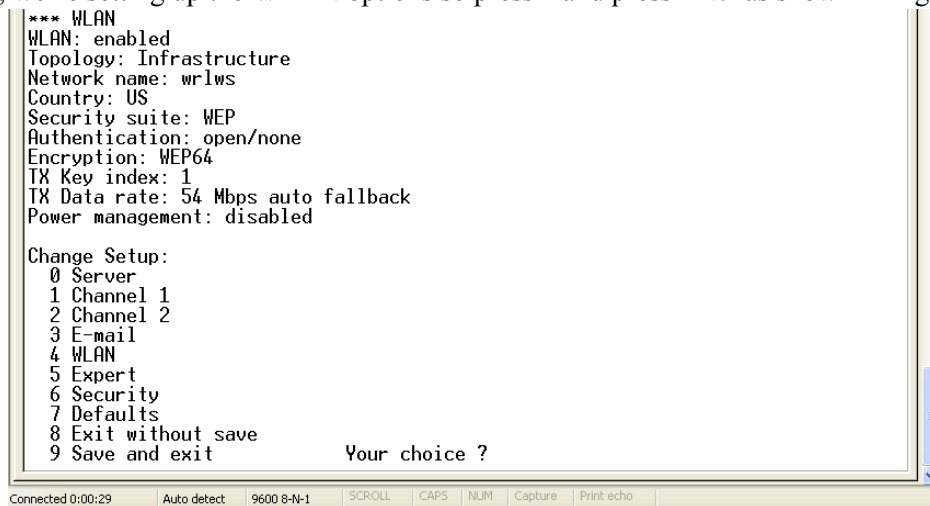

Figure 10. Change Setup Screen
7. Select an option on the menu by entering the number of the option in *Your Choice?* field and press **Enter**. In this case, we're setting up the WLAN options so press 4 and press **Enter** as shown in Figure 10.